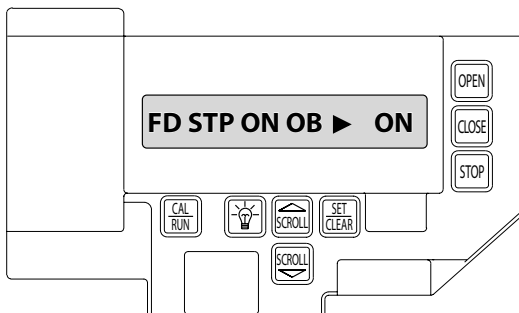

Fig. 14
- 1) Press SET/CLEAR to toggle setting ON or OFF. Fig. 14